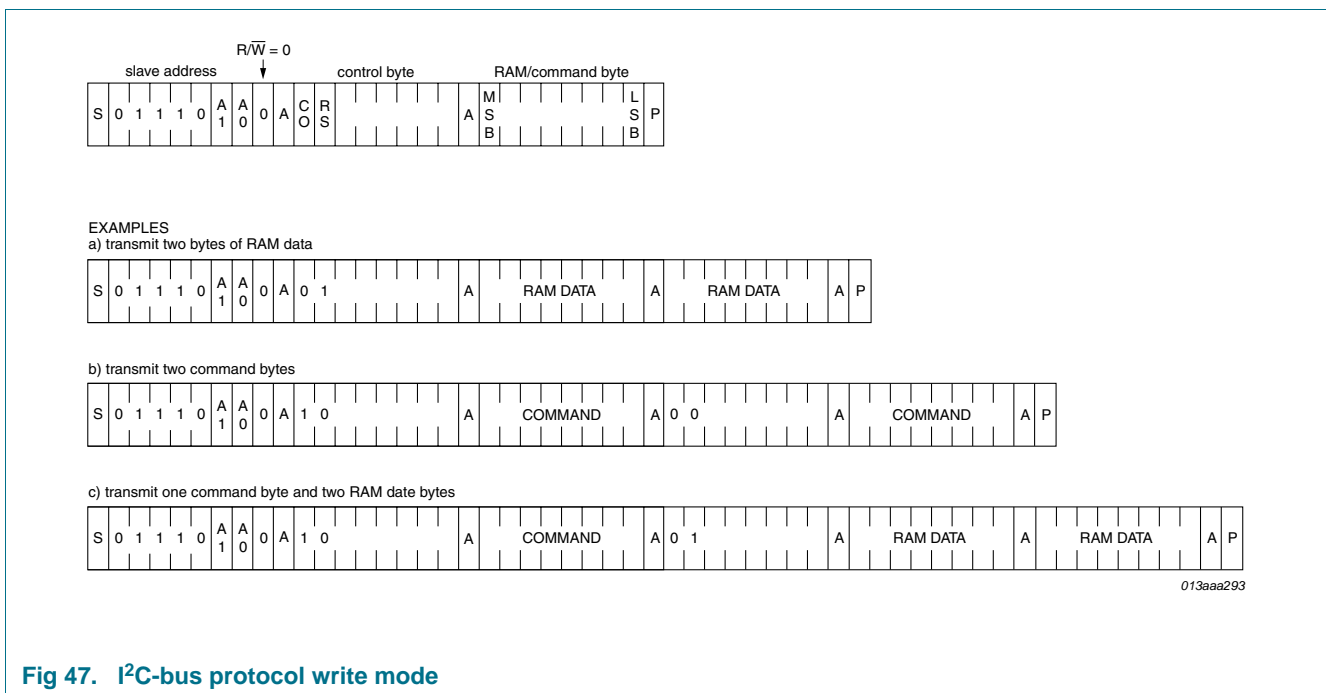

Fig 47. I²C-bus protocol write mode
The I²C-bus protocol is shown in Figure 47. The sequence is initiated with a START condition (S) from the I²C-bus master which is followed by one of the four PCA9620 slave addresses available. All PCA9620's with the corresponding A1 and A0 level acknowledge in parallel to the slave address, but all PCA9620 with the alternative A1 and A0 levels ignore the whole I²C-bus transfer.